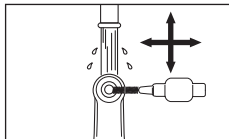

Fig. 12
- 2) Clean around the bur insertion hole for 15 seconds or more, using an interdental brush (wire thickness 0.7mm) that conforms to size 4 in ISO 16409. (Fig. 12)